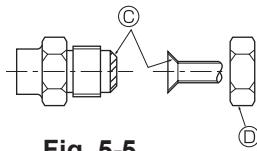

Fig. 5-5
(A) (Fig. 5-5)
### 5.5. Connecting pipes (Fig. 5-4) (Fig. 5-5)
- The indoor parts of the drain pipe should be wrapped with polyethylene foam insulation materials (specific gravity of 0.03, thickness of 9 mm (3/8 inch) or more). [Fig. 5-5]
- Apply thin layer of refrigerant oil to pipe and joint seating surface before tightening flare nut. (A)
- Use 2 wrenches to tighten piping connections. (B)
- Apply refrigerating machine oil over the entire flare seat surface. (C)
- Use the flare nuts as follows. (D)